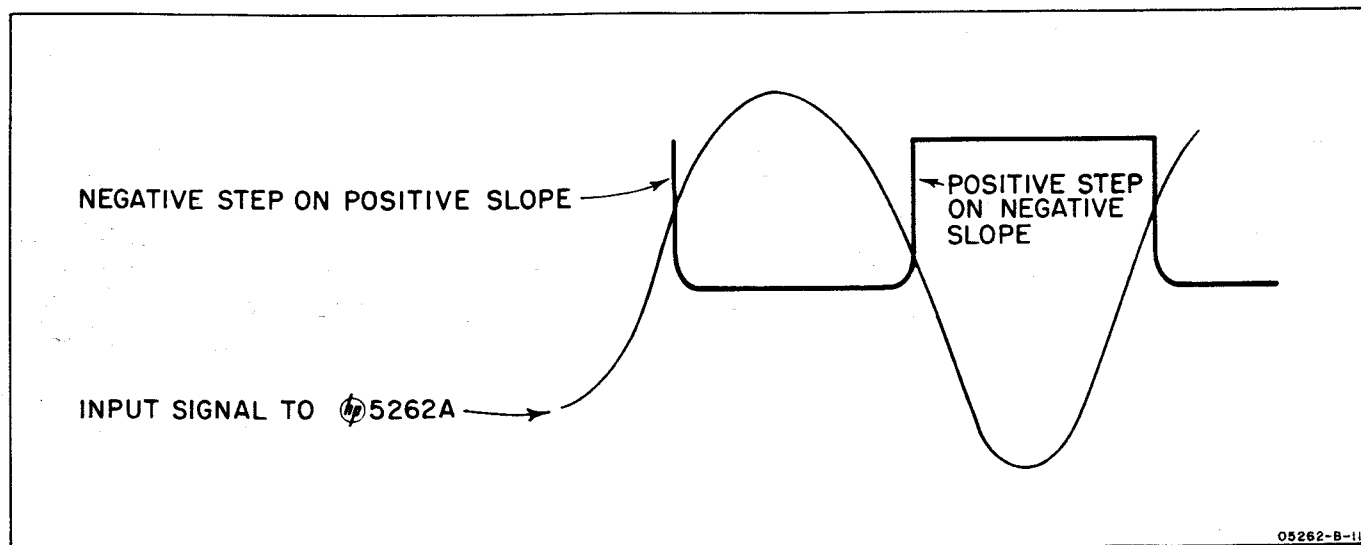

Figure 4-4. Voltage Step Coincident with Trigger Pulses
f. Over this range, voltage steps (coincident with trigger pulses) similar to those shown in figure 4-4 will appear.